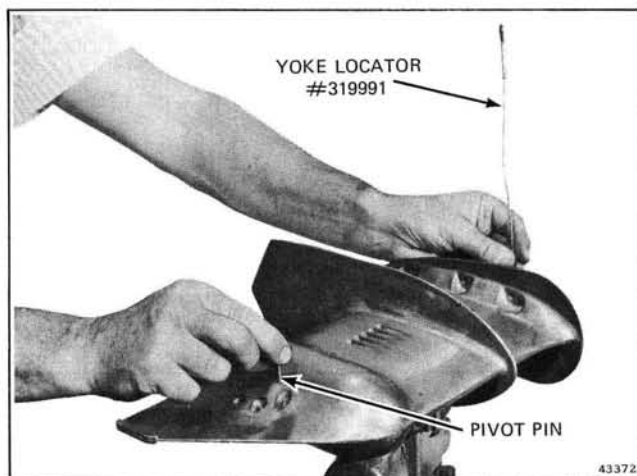

Figure 6-54. Installing Pivot Pin
10. Using yoke locator (OMC Special Tool #319991) install pivot pin dipped in OMC Gasket Sealing Compound. See Figure 6-54. Torque to specifications, Section 2.